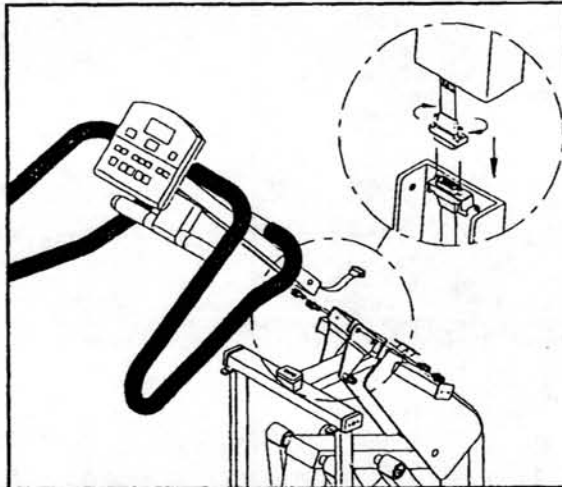

Fig.11-5
2. Plug the connectors of THE RIBBON CABLE securely and fasten them by screws. Assemble the UPRIGHT COLUMN on the FRAME SUPPORT and secure it by screws (see fig.11-5).